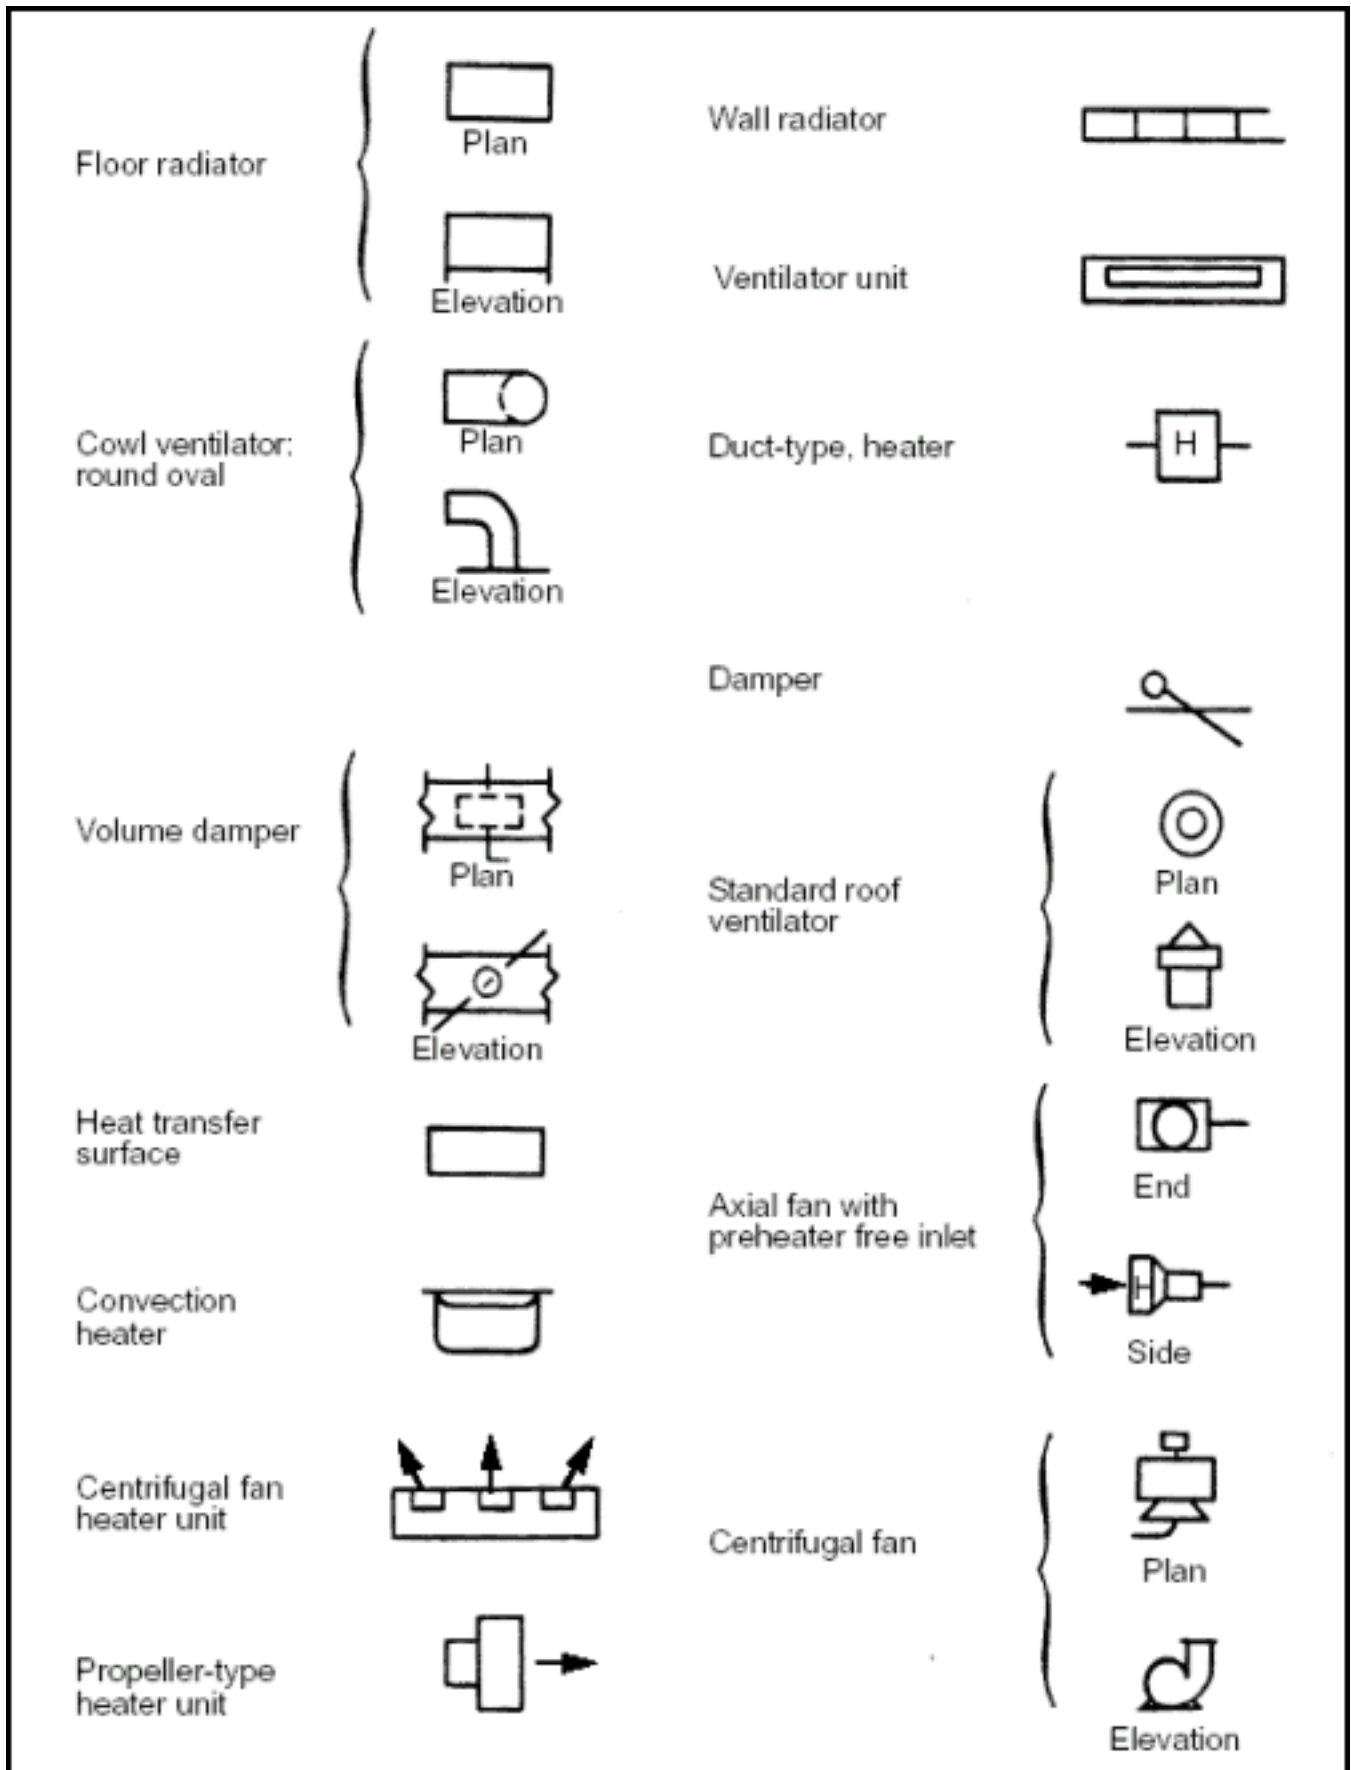

Figure B-11. Heating Fittings and Fans
- Heating Fittings and Fans (Figure B-11).